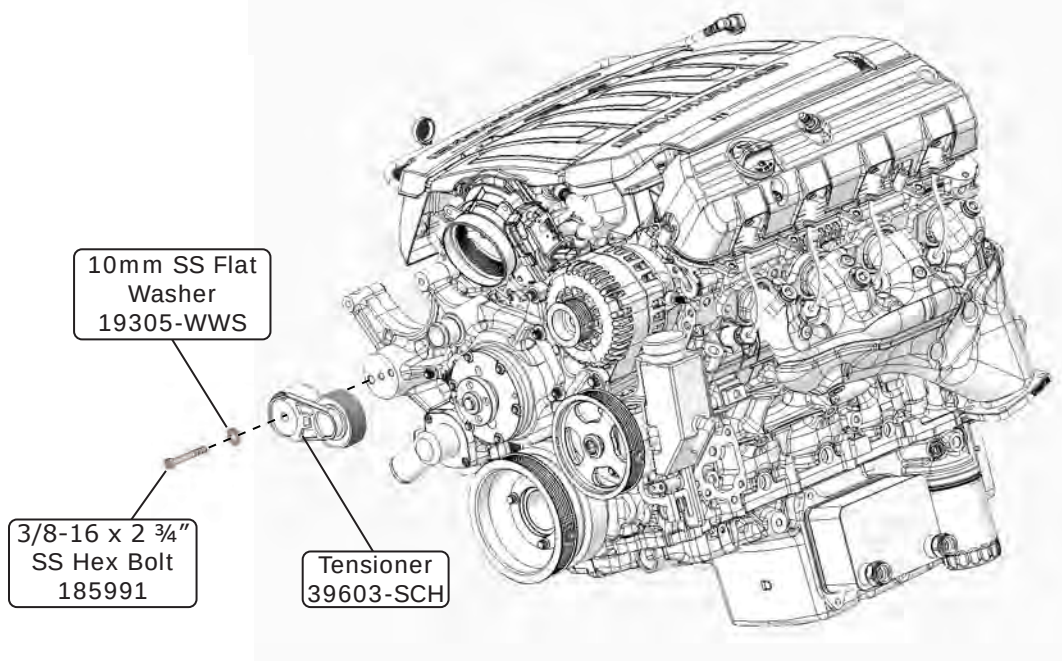

Figure 1
1. Align tensioner pins with holes in casting as shown in Figure 1, below. Secure tensioner with 10mm washer and 3/8-16 x 2 3/4" SS hex bolt torqued to 21 +/- 2 lb-ft (See Figure 1, below).
1. Install the A/C compressor as shown in Figure 1, below.